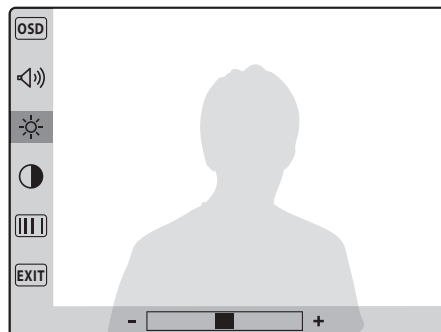

Fig.4a
- The picture brightness (8 levels Fig.4a);